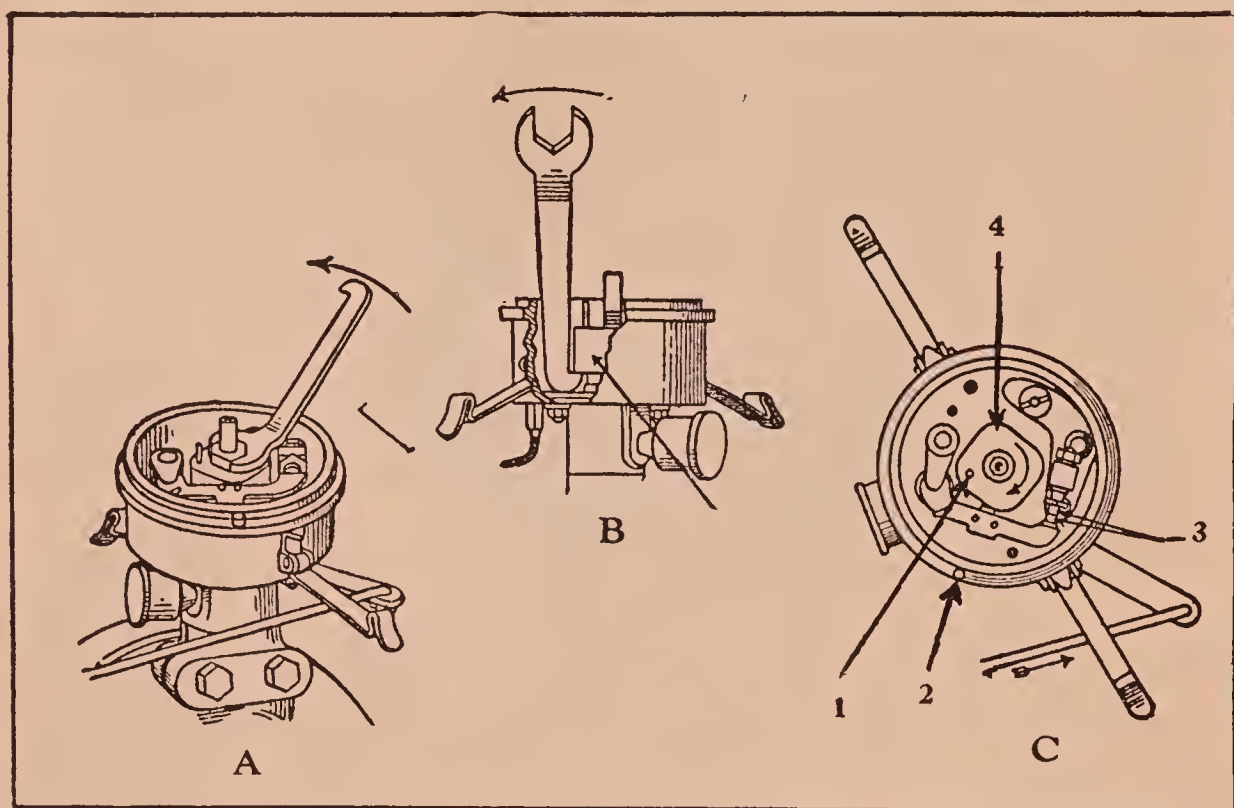

Fig. 59. Timing the Ignition, Distributor System
4. Remove the cam lock-nut (11, fig. 58) and, by means of the special wrench, loosen the cam from the end of the shaft (see fig. 59.)
5. Turn the cam until the driving-pin (21, fig. 58) assumes the position shown in fig. 59.